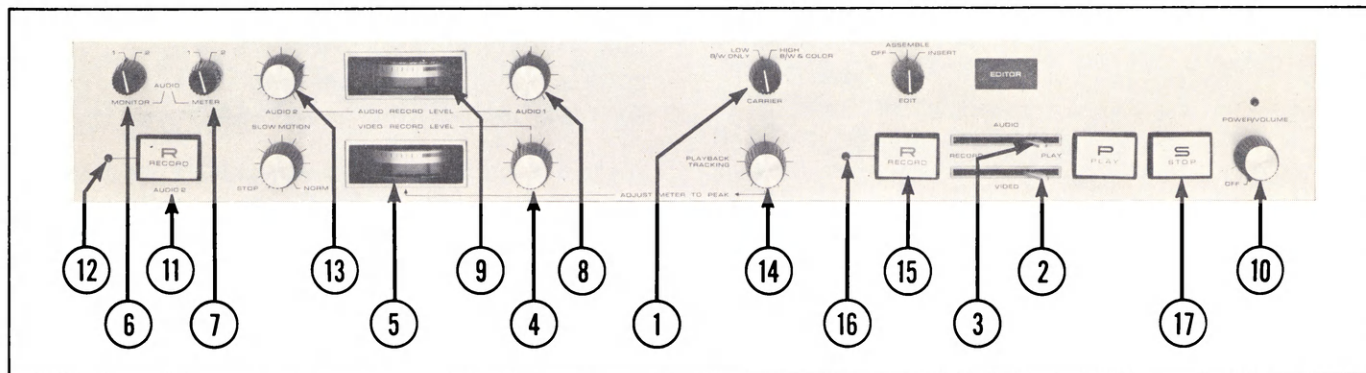

Figure 10 Recording Video, Audio 1 and Audio 2 Simultaneously Operation
4. Place the Carrier selector (item 1, figure 10) in the position that will correspond to the carrier frequency of the unit that will be playing back the tape.
5. Place the Video and Audio Record/Play Levers (item 2 and 3, figure 10) in the left-hand (RECORD) position.
6. Adjust the Video Record Level control (item 4, figure 10) for a 100% indication (during peak white scenes) on the Video Record Level meter (item 5, figure 10).
7. Set the Audio Monitor and Meter selectors (item 6 and 7, figure 10) to the "1" position.
8. Adjust the Audio 1 Record Level control (item 8, figure 10) for a 100% indication (during peak sound levels) on the Audio Record Level meter (item 9, figure 10). The Power/Volume control (item 10, figure 10) can be turned up to monitor the audio 1 input from the internal speaker if desired.
9. Set the Audio Monitor and Meter selectors (item 6 and 7, figure 10) to the "2" position.
10. Momentarily depress the Audio 2 Record button (item 11, figure 10). Note that the Audio 2 Record Indicator (item 12, figure 10) lights, which indicates that
11. Adjust the Audio 2 Record Level control (item 13, figure 10) for a 100% indication (during peak sound levels) on the Audio Record Level meter (item 9, figure 10). The Power/Volume control (item 10, figure 10) can be turned up to monitor the audio 2 input from the internal speaker if desired.
12. Rotate the Playback Tracking control (item 14, figure 10) to the "SET" position. DO NOT rotate or
13. To begin recording, depress, and hold down the Audio 2 Record button (item 11, figure 10) while simultaneously depressing the Main Record button (item 15, figure 10). The red Record Indicator (item 16, figure 10) will light at this point and tape movement begins.
14. To terminate the recording, depress the Stop button (item 17, figure 10). To begin recording again, repeat step 13.